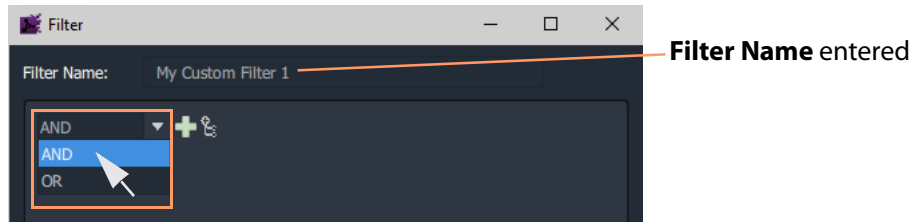

Fig. 11-57: Select AND
- 3 Select AND as the first (top-level) logical combination item with the drop-down menu button. See Figure 11-57.